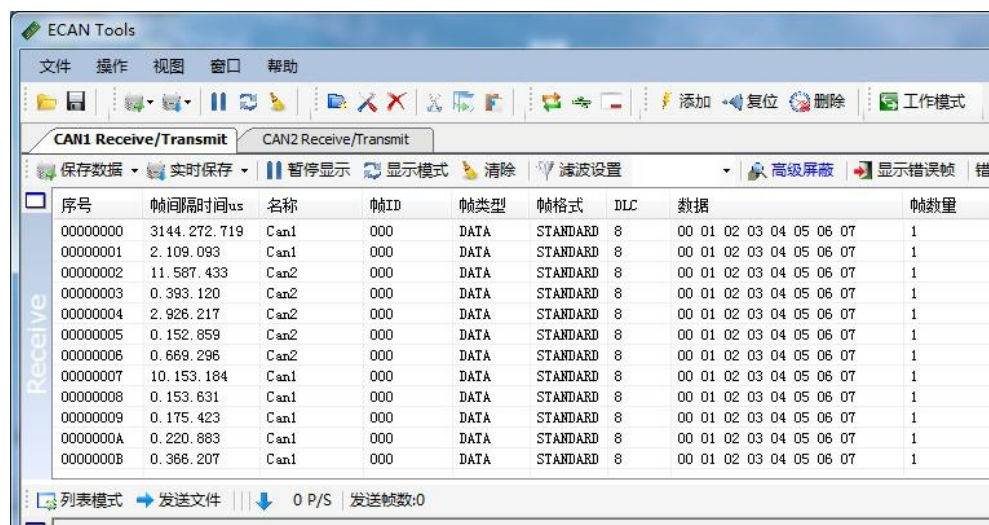

Figure 4.3 Software interface
5. After the power on again, the software is shown in figure 4.3.